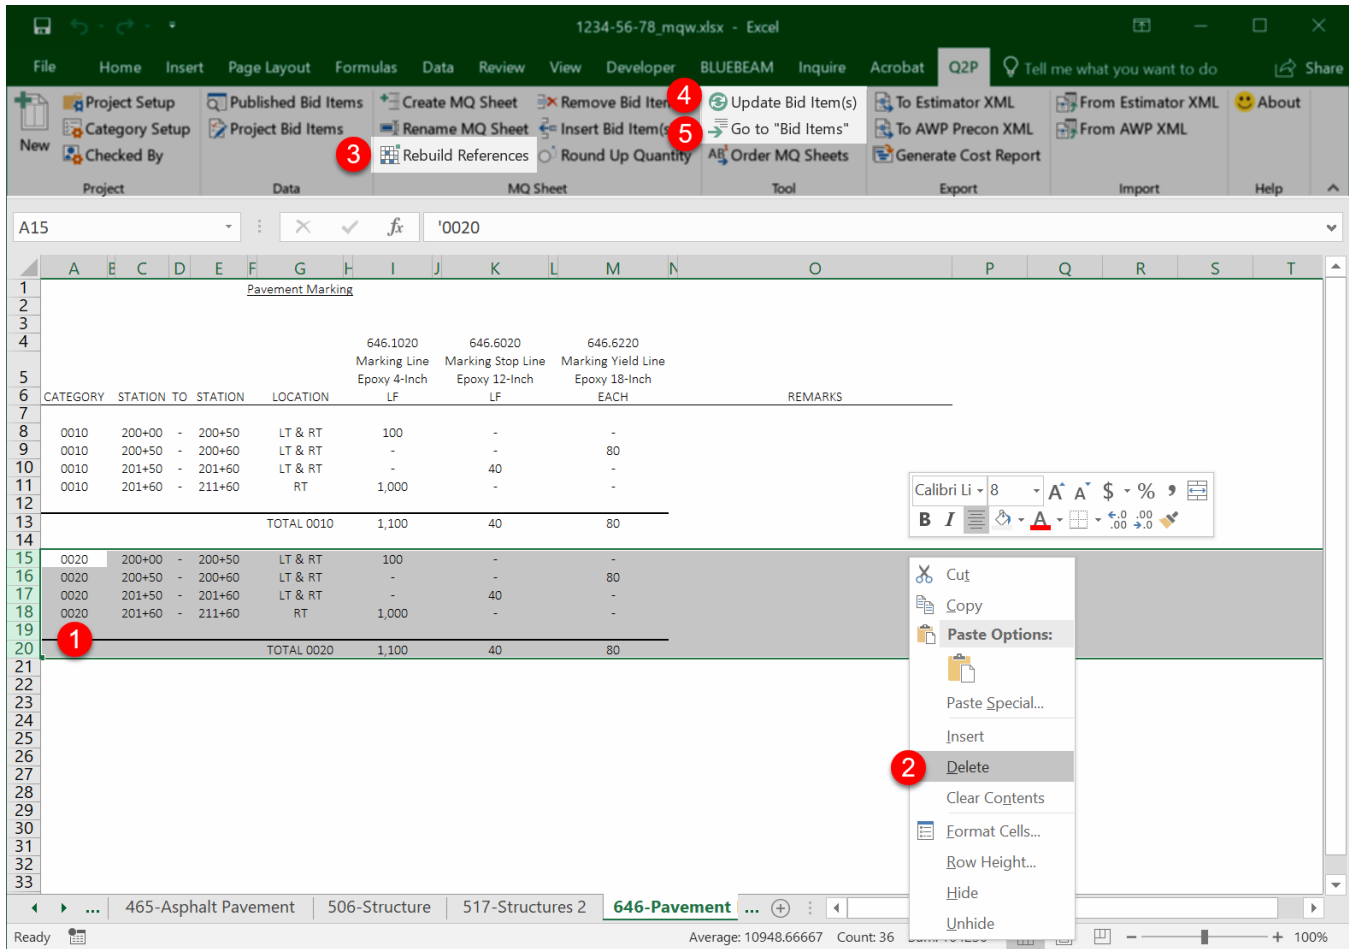

Figure 6.6 Deleting a category from an existing MQ sheet.
1. Select the rows of cells of the category to delete by clicking and dragging over the row numbers (for example, rows 15-20 in Figure 6.6).